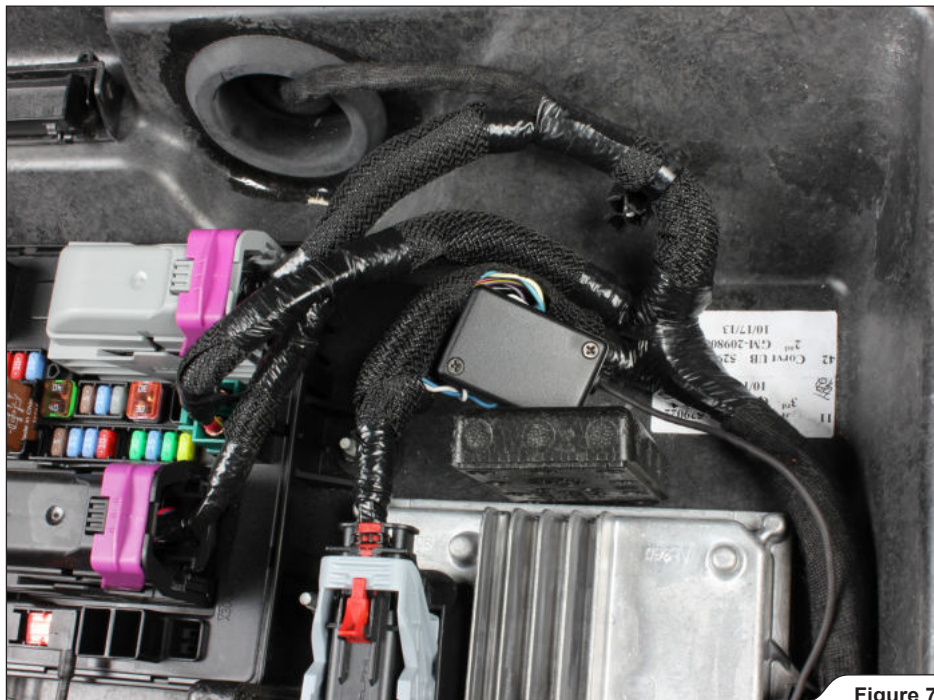

Figure 7
7. Carefully open the insulation of the stock control unit's wiring harness; partially extract and untwist the white and light blue wires. Lead the white and light blue wires through the CAN Sniffer's wire grooves and reinstall the Sniffer's cover (**Figure 7, 8**).